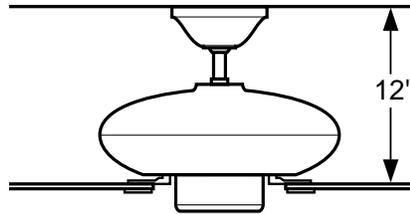

Figure 1b - Standard Mounting
**Standard Mounting** (Figure 1b) hangs from the ceiling by a connector pipe (included), for ceilings 8 feet or higher. For ceilings higher than 8 feet, you can also purchase Hunter extension rods. All Hunter fans use sturdy 3/4" inner diameter pipe to assure stability and wobble-free performance.